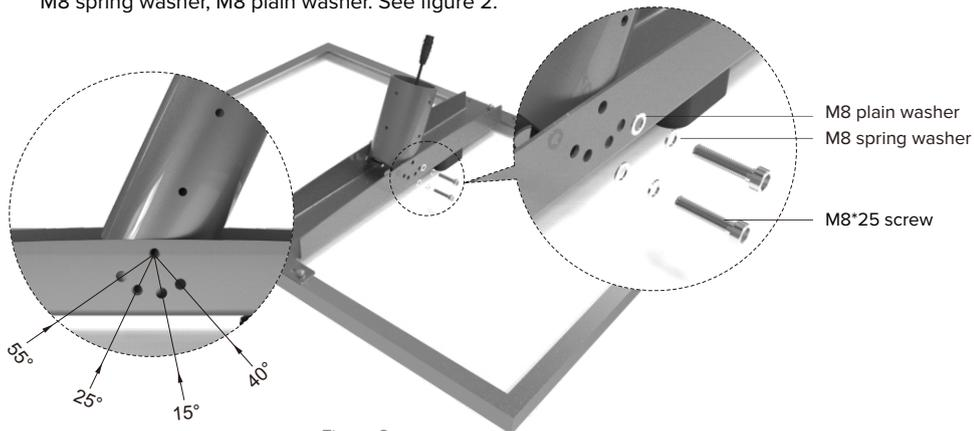

Figure 2
- 2 Choose an appropriate angle to fasten the bushings, the accessories are M8*25 screw, M8 spring washer, M8 plain washer. See figure 2.